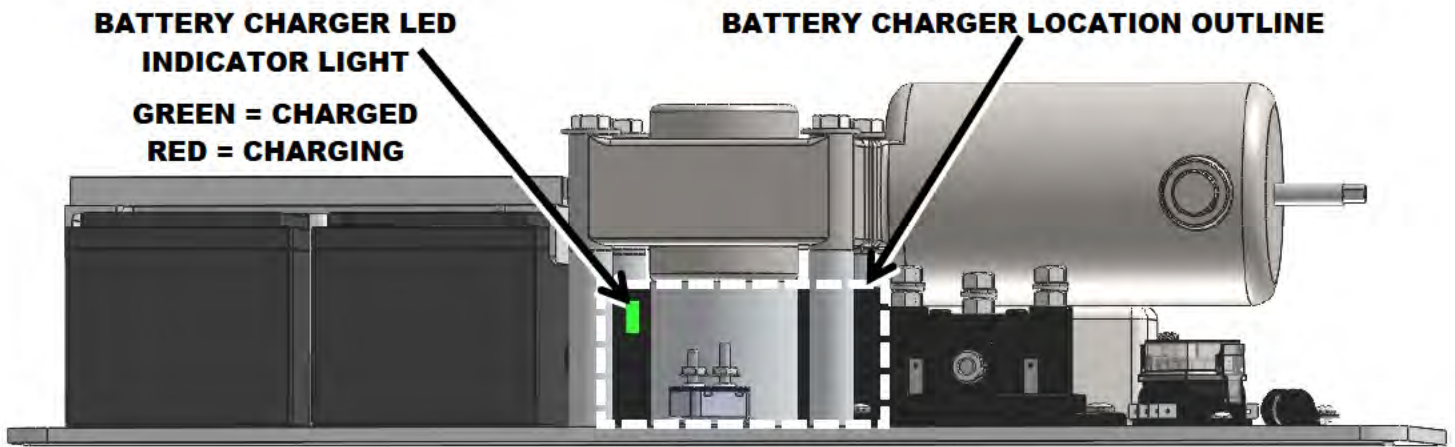

FIG. 4.10A
12. Plug VPL into AC power, verify charger LED is illuminated. (FIG. 4.10 and FIG. 4.10A.)